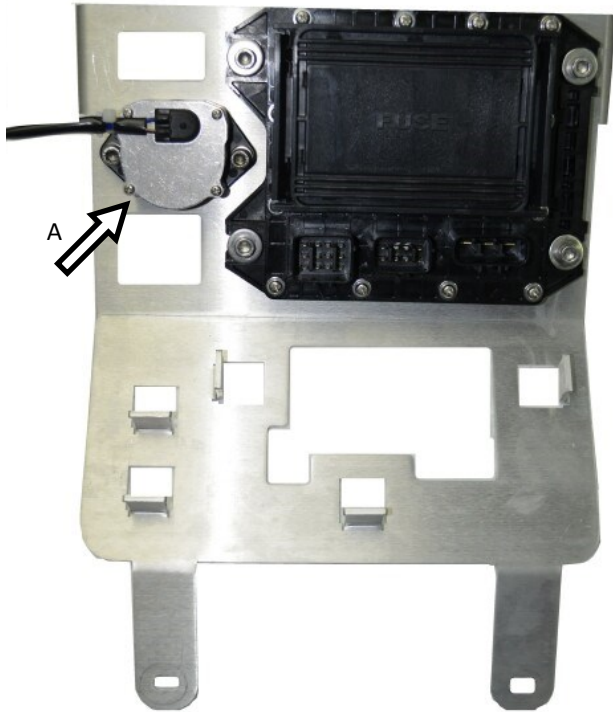

Figure 10
Remove OEM air box. Remove angle sensor from OEM air box and install onto supplied electrical mount bracket. Secure using 2 each supplied 6 x 16mm allen bolts, 6mm aluminum sleeves, M6 flat washers, and M6 nylock nuts (A). **Note: Back of sensor is marked with an arrow and "UP". Sensor must be installed with arrow pointing upward.** (Figure 10)
Install fuse block onto supplied electrical mount bracket using 4 each supplied 6 x 30mm allen bolts, M6 plastic collars, M6 fender washers, M6 flat washers and M6 nylock nuts. (Figures 10 and 11)